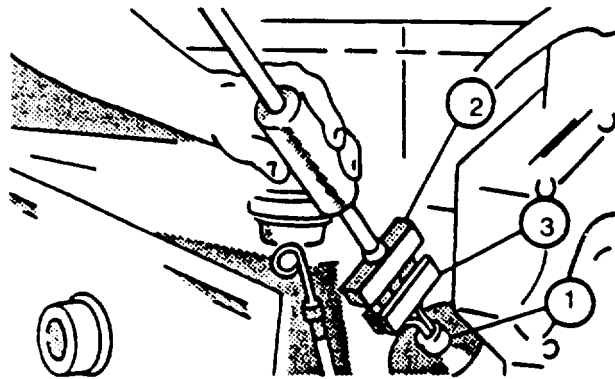

FIGURE 3-47. Removing Oil Filter Nipple
- i. If defective, remove screw (18) securing strap (19) to engine; remove strap.
- j. Remove oil filter nipple (12) from cylinder block with a suitable pilot bearing puller, refer to FIGURE 3-47.